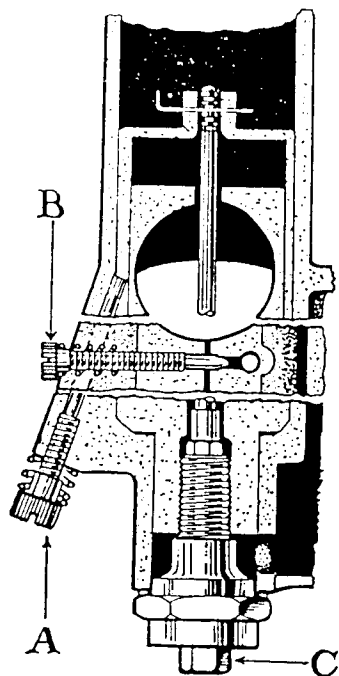

FIG. C.2.
Figure C.2 is a three-section diagram of the carburettor showing the throttle adjusting screw (A), and the pilot air adjusting screw (B).